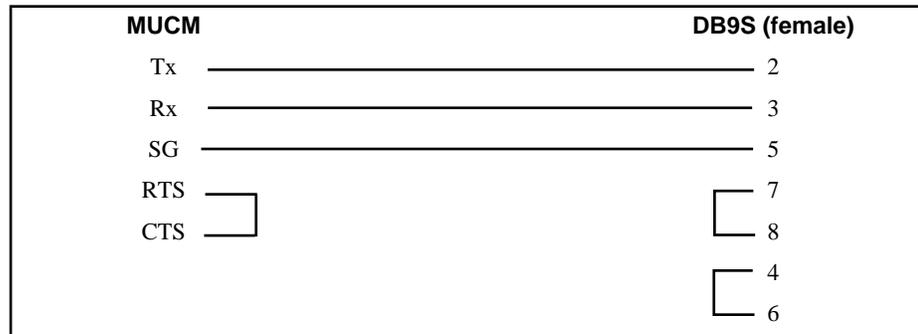

Figure 2-1 MUCM to PC RS-232 (MU1 Cable)
- MU1 cable (or equivalent can be built; see Figure 2-1)
A physical connection must be made from the personal computer to the MUCM in order to download the applications. This link is a serial connection from a COM port on the personal computer to the RS-232 port on the MUCM. The Niobrara MU1 cable may be used for this connection. This cable is shown in Figure 2-1.